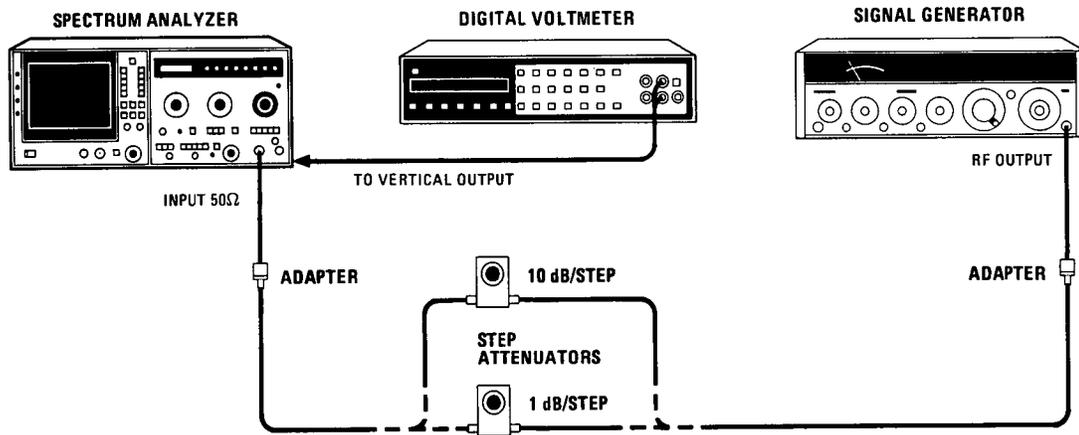

Figure 4-20. Display Accuracy Test Setup
3. Connect equipment as shown in Figure 4-20 using 10-dB step attenuator. Set step attenuator to 0 dB. Set signal generator for an unmodulated 30 MHz output at approximately 0 dBm.